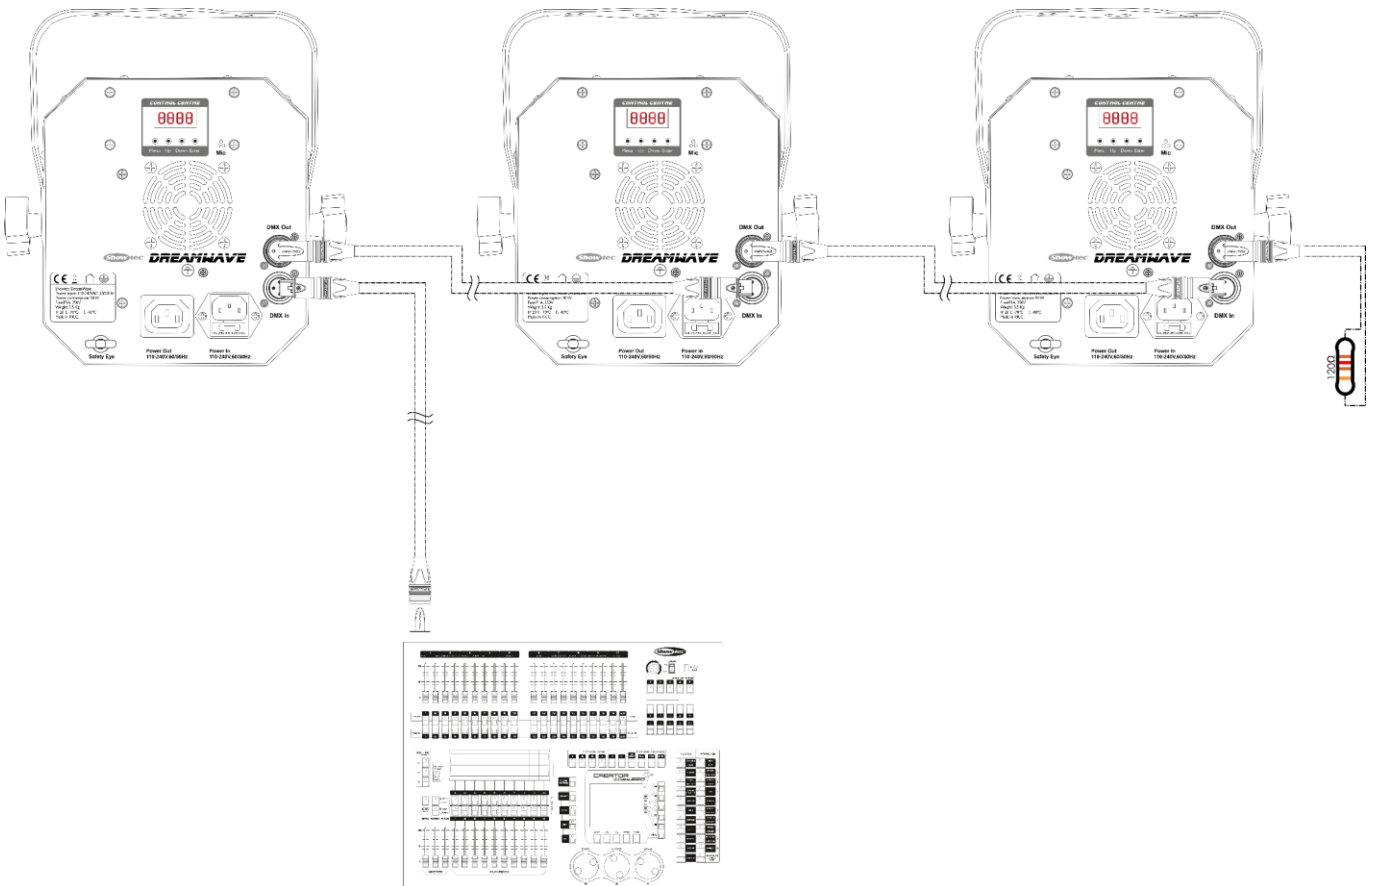

Fig. 05
- 04) Link the units as shown in Fig. 05. Connect the first unit's DMX "out" socket with the second unit's "in" socket, using a DMX signal cable. Repeat this process to link the second and third units.